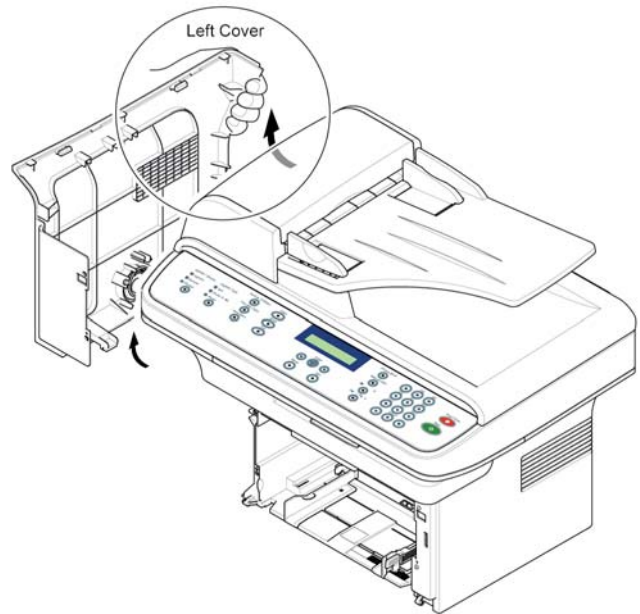

Figure 2
4. Apply light pressure to the back of the left cover and pull it to the left side in the direction of the arrow, Figure 2.